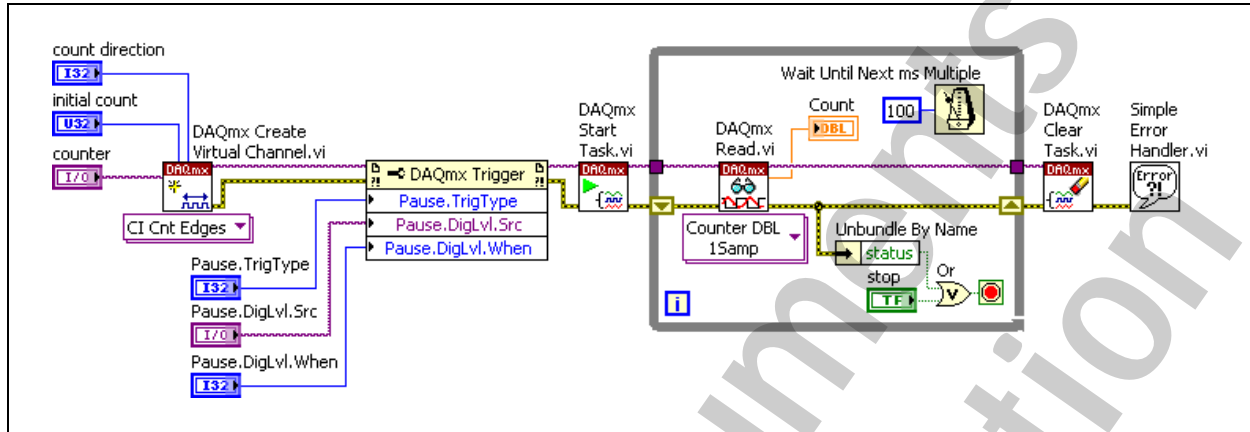

Figure 6-3. Simple Edge Counting - Gated VI Block Diagram
3. Modify the block diagram to add gating to edge counting, as shown in Figure 6-3, using the following item: